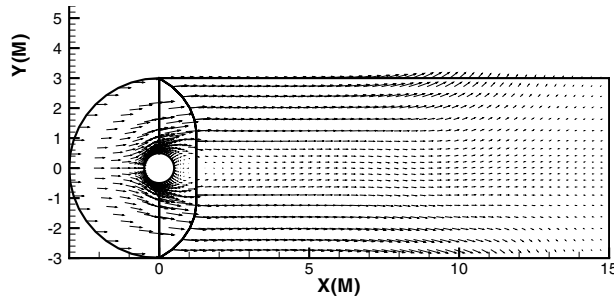
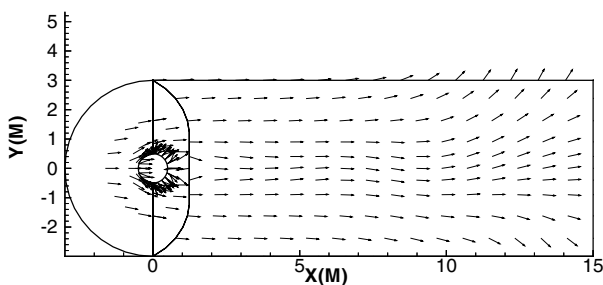

Figure 11-2. A vector plot of the cylinder data.
Figure 11-8. A vector plot with Index Skip specified.
Once you have selected the Vector check box and have chosen your vector components your vector plot will appear as shown in Figure 11-2 for the cylinder data. If vectors are not visible, see 11.5, “Vector Length.”
You can draw every vector or specify a skip factor that lets you plot only every n th vector (in I-, J-, or K- coordinates). Spacing the drawn vectors is useful in situations where you have an extensive vector field, and plotting all the vectors makes the general flow of the vector field difficult to discern. For example, Figure 11-8 shows the cylinder data with every other vector shown in the I direction and every third vector shown in the J direction. Compare this to the vector plot shown in Figure 11-2.
6. (Enter Skip only) Enter the desired values of I-Skip, J-Skip, and K-Skip. Figure 11-8 was created with the following settings: $I\text{-Skip}=2$, $J\text{-Skip}=3$, $K\text{-Skip}=1$.